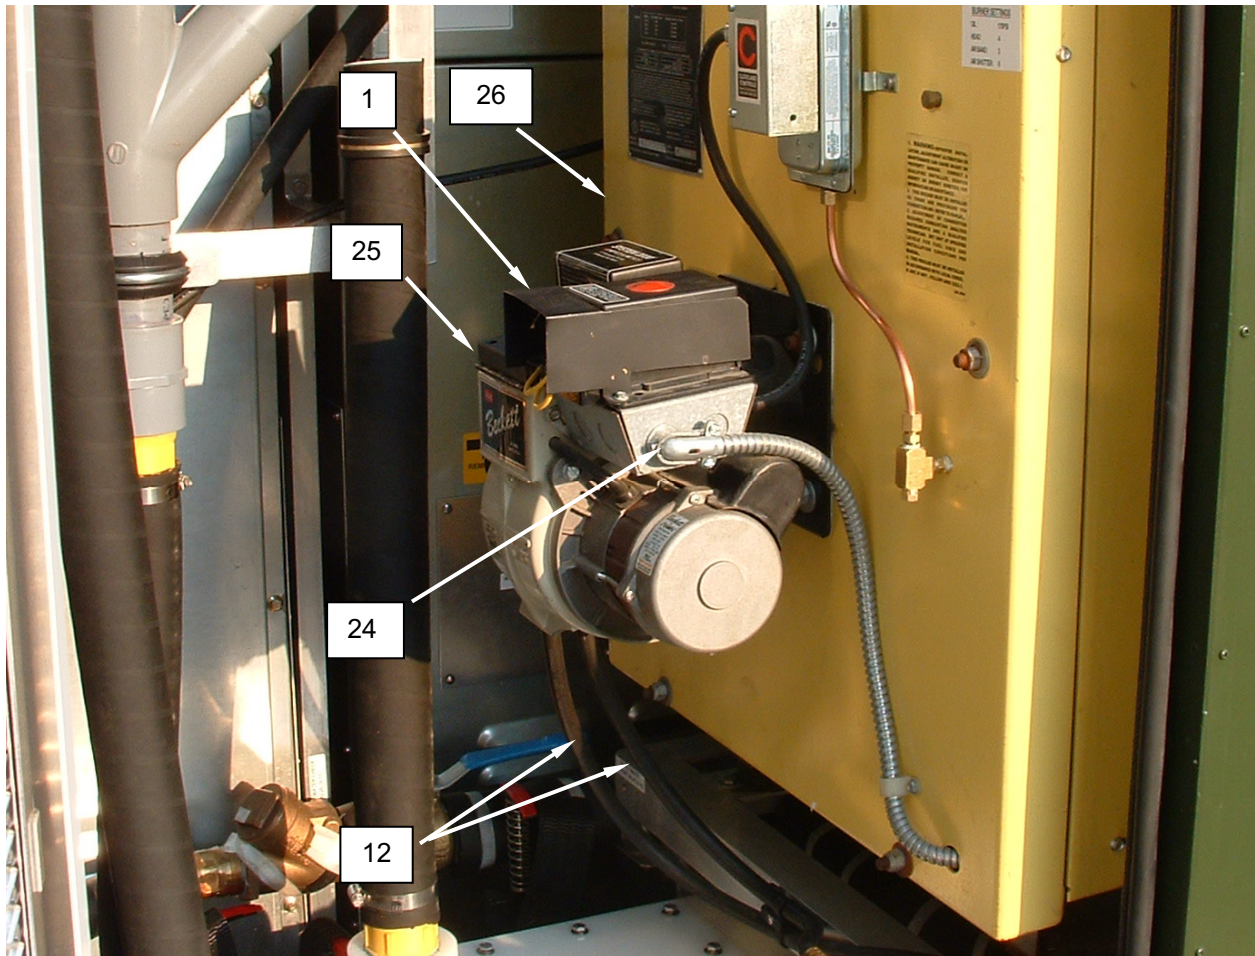

Figure 13. Replace the Burner Assembly.
2. Remove screw retaining the burner primary control (**Figure 13, Item 1**) and remove primary control.
4. Remove conduit locknut, and remove conduit (**Figure 13, Item 24**) from junction box.
5. Tag and disconnect fuel supply and return hoses (**Figure 13, Item 12**).
6. Remove the nuts retaining the burner assembly (**Figure 13, Item 25**) to the boiler (**Figure 13, Item 26**), and remove the burner assembly.
8. Install the replacement burner assembly (**Figure 13, Item 25**), and secure in place with nuts.
9. Connect the fuel supply and return hoses (**Figure 13, Item 12**) as tagged.
10. Remove the screw retaining the replacement burner primary control (**Figure 13, Item 1**) and remove primary control.
12. Install conduit (**Figure 13, Item 24**) and retain with locknut.
14. Install the burner primary control (**Figure 13, Item 1**) and retain with screws.